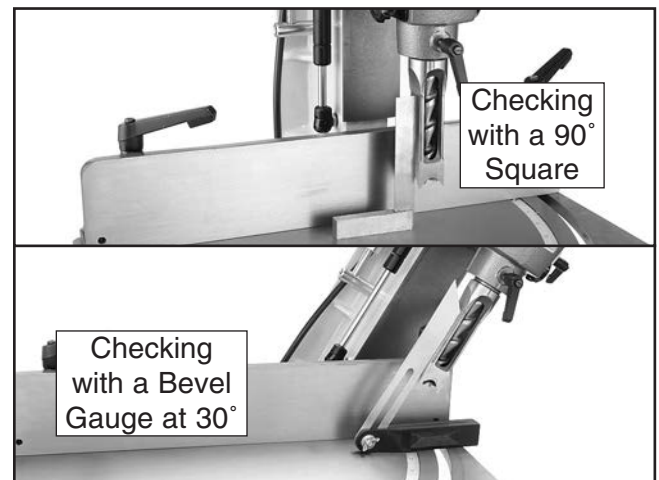

Figure 33. Checking head tilt angles.
2. Use the 90° square and bevel gauge at 30° (see **Figure 33**) to check the chisel angle to the table when the head is in each of the three positions (30° L, 0°, 30°R).